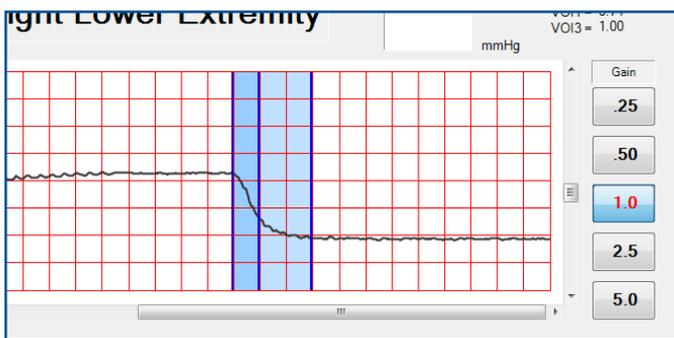

FIGURE 2.10 - Wave Plateauing and Returning to Baseline
12. Once the maximum volume has filled, and waveform has plateaued, click the “Release Occlusion” button. The air in the Occlude cuff will evacuate quickly and the trace will return to the baseline (Figure 2.10).